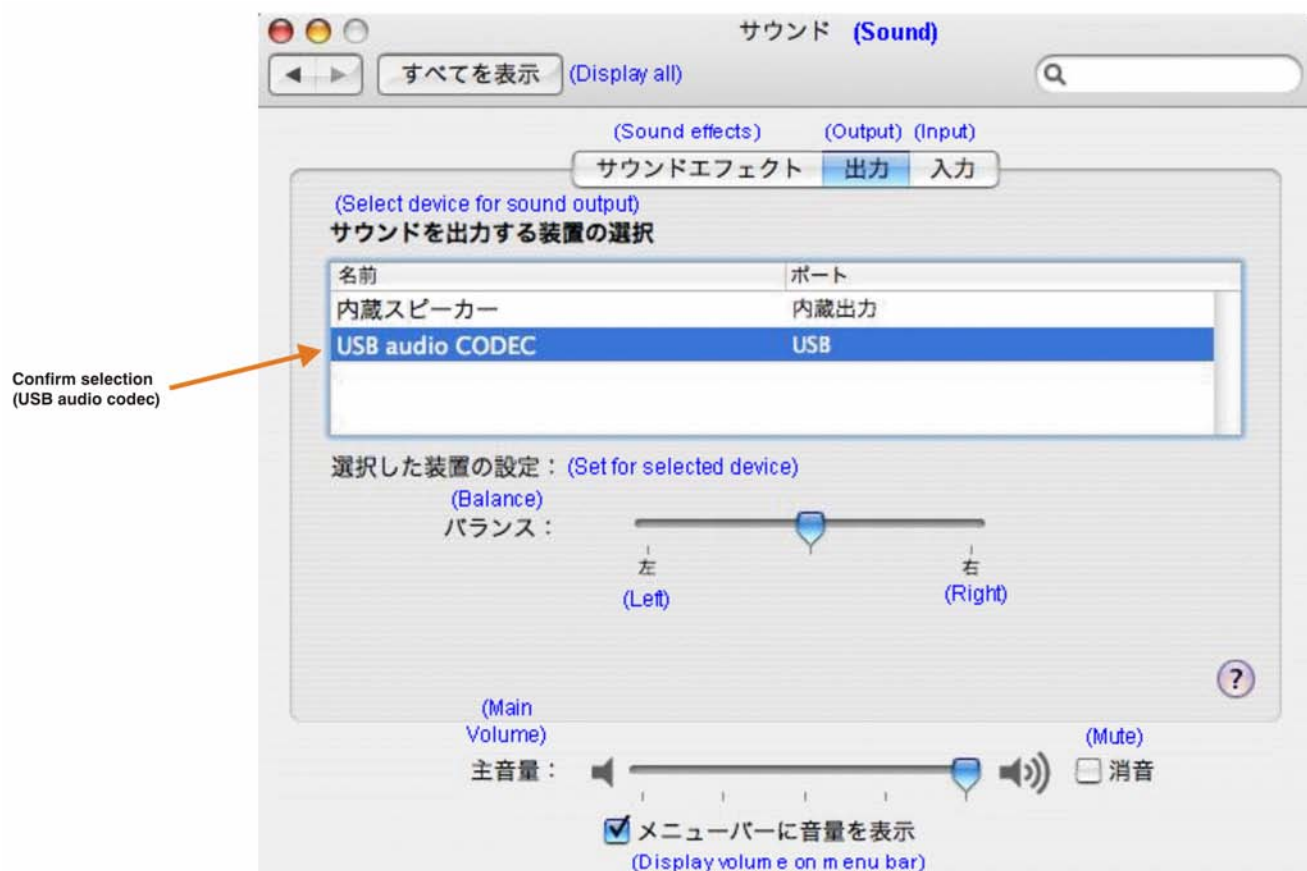
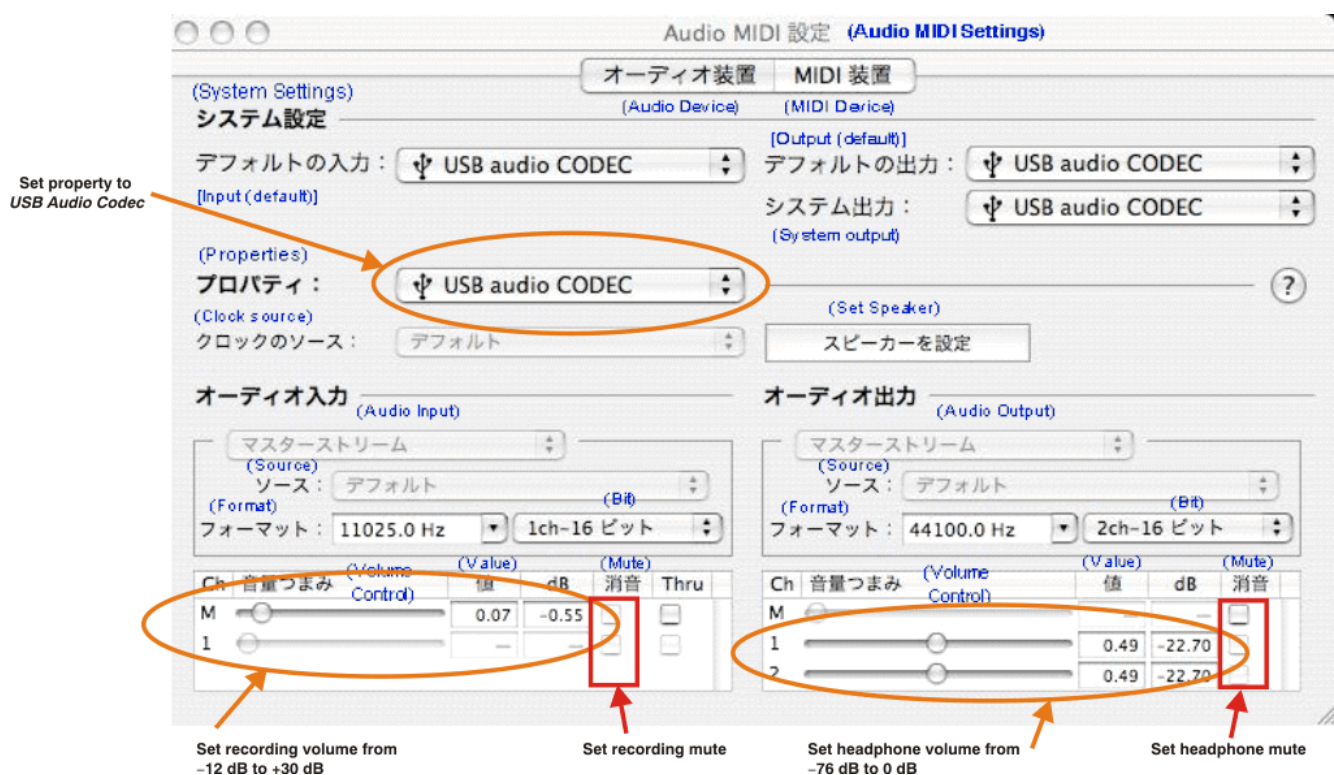

Figure 3-13. Sound—Output Tab (Mac OS)
Figure 3-14. Audio Midi Setting Window (Mac OS)
- Step 4. Select the *Output* tab and confirm the USB audio codec appearance as the default playback device, as shown in Figure 3-13.
- Step 1. Open the *Audio MIDI Settings* options (*Application*→*Utility*→*Set Audio MIDI*), as illustrated in Figure 3-14. Alternatively, open the *Output* tab of the *Sound* options, as illustrated in Figure 3-13.
1. Open the *Audio MIDI Settings* options (*Application*→*Utility*→*Set Audio MIDI*), as illustrated in Figure 3-14. Alternatively, open the *Input* tab of the *Sound* options, as illustrated in Figure 3-12.